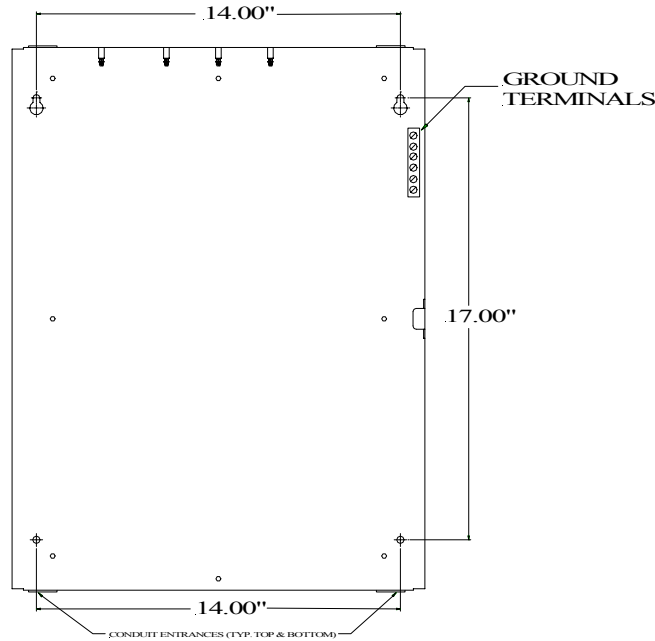

Figure 1.
1. See Figure 1 for mounting hole layout.